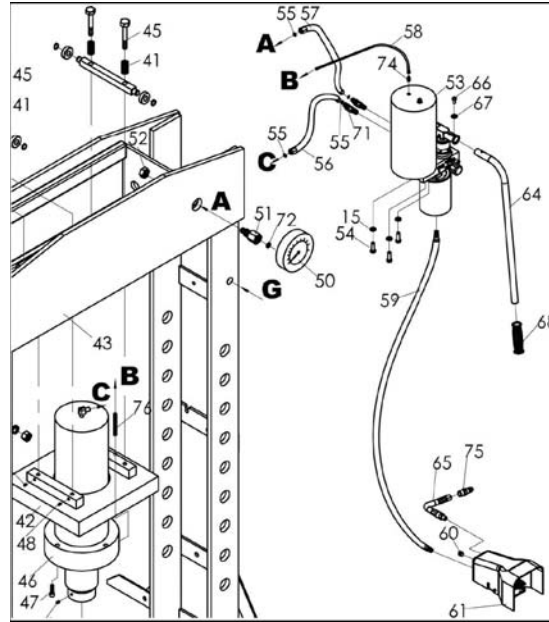

Figure 2
- 4) Place nylon washer (#72) on gauge fitting (#51) and then attach the fitting to the pressure gauge (#50). Tighten this assembly to the gauge making sure that it is firmly attached, taking care not to over-tighten. Attach and tighten nut (#52) to gauge fitting (#51) to fix the pressure gauge onto the upper beam. (Figure 2) Rotate the gauge so that the scale shown on the face of the gauge is level and the type is easily readable.
- 5) Oil hose 1 (#56) assembly: Place O-Ring (#55) on the oil hose 1 (#56) and connect it to the fitting (#71) on the pump assembly (#53). (Figure 2).
- 6) Oil hose 2 (#57) assembly: Place the O-ring (#55) on gauge fitting (#51). Then connect the oil hose 2 (#57) to the gauge fitting (#51) and tighten. Connect the PU hose (#58) to hose fitting (#74) on the pump assembly (#53). Attach the handle (#64) to the pump handle socket using bolt (#66) and flat washer (#67). (Figure 2).